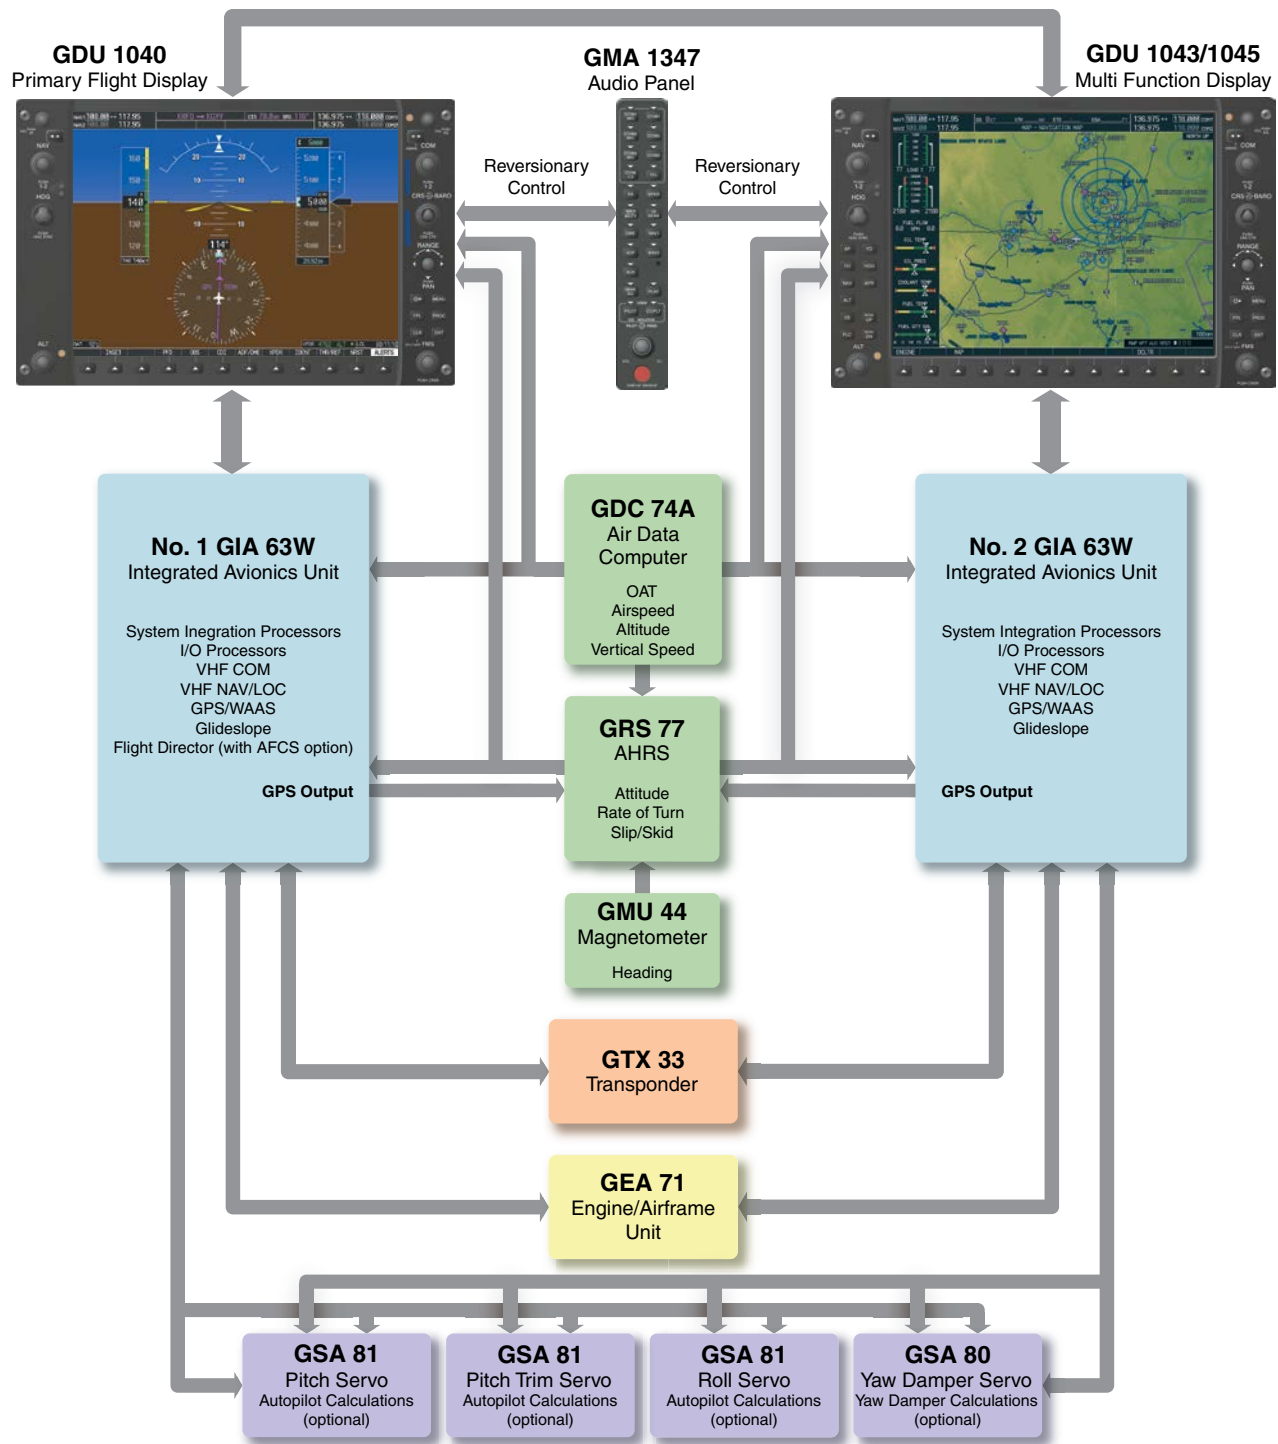
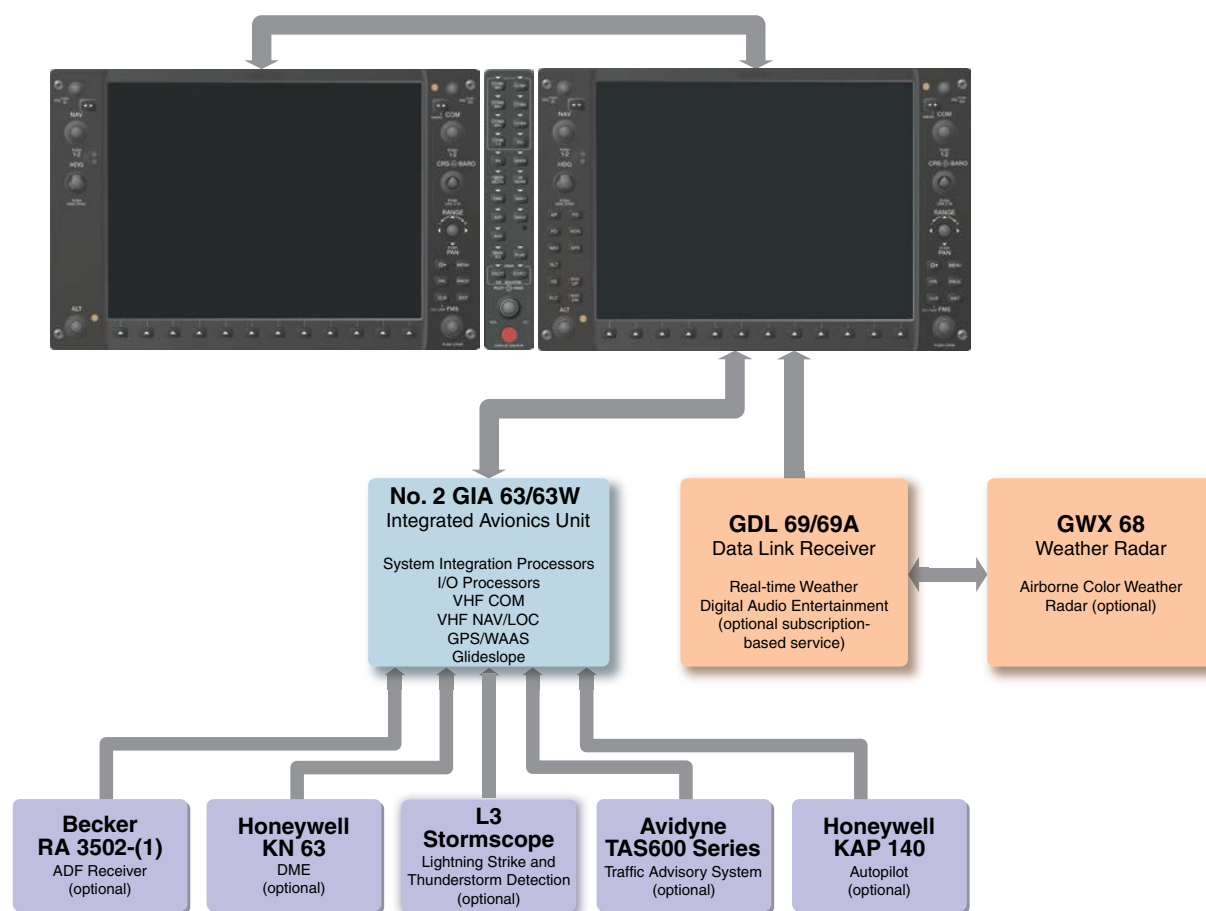

Figure 1-1 G1000 System Block Diagram
Figure 1-2 G1000 With Optional/Additional Interfaces
Figure 1-1 shows interactions between the LRUs. Additional/optional equipment are shown in Figure 1-2.
The GSM 85 servo mounts are responsible for transferring the output torque of the servo actuators to the mechanical flight-control surface linkages (not displayed in Figure 1-1).
**NOTE:** For information on additional equipment shown in Figure 1-2, consult the applicable optional interface user's guide. This document assumes that the reader is already familiar with the operation of this additional equipment.
The displays are connected together via a single Ethernet bus for high-speed communication. As shown in Figure 1-1, each IAU is connected to the on-side display. This allows the units to share information, enabling true system integration
If a display fails, the appropriate IAU-display Ethernet interface is cut off. Thus, the IAU can no longer communicate with the remaining display (refer to Figure 1-1), and the NAV and COM functions provided to the failed display by the IAU are flagged as invalid on the remaining display. The system reverts to backup paths for the AHRS, ADC, Engine/Airframe Unit, and Transponder, as required. The change to backup paths is completely automated for all LRUs and no pilot action is required.